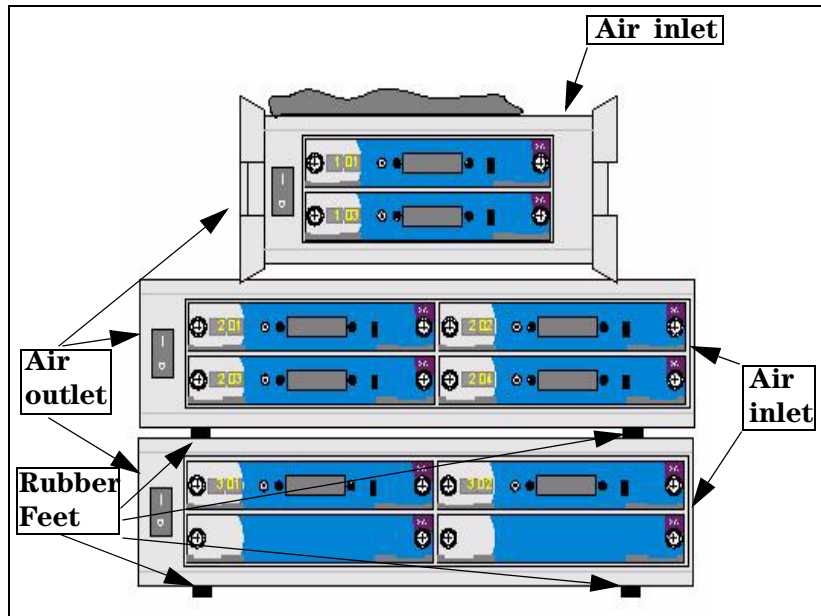

Figure 3 Pile of Chassis
- Figure 3. Pile of Chassis 13
- b Create a pile of the chassis, as shown in Figure 3.